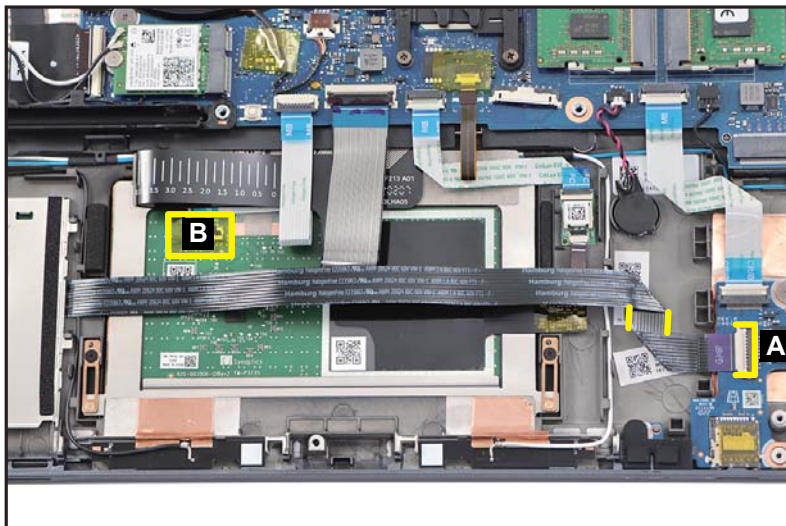

Figure 1-34. Touchpad Module Removal
1. Disconnect the smart card reader FFC from the card reader board connector (A) (Figure 1-34).
2. Detach the adhesive tape (B) securing the touchpad FFC connection (Figure 1-34).
Smart card reader FFC (Flexible Flat Circuit) can be damaged if removed while the card reader board connector is locked. When removing the smart card reader FFC, carefully lift the portion of FFC (highlighted by the yellow lines) to detach it from the adhesive tape underneath as shown in Figure 1-34.